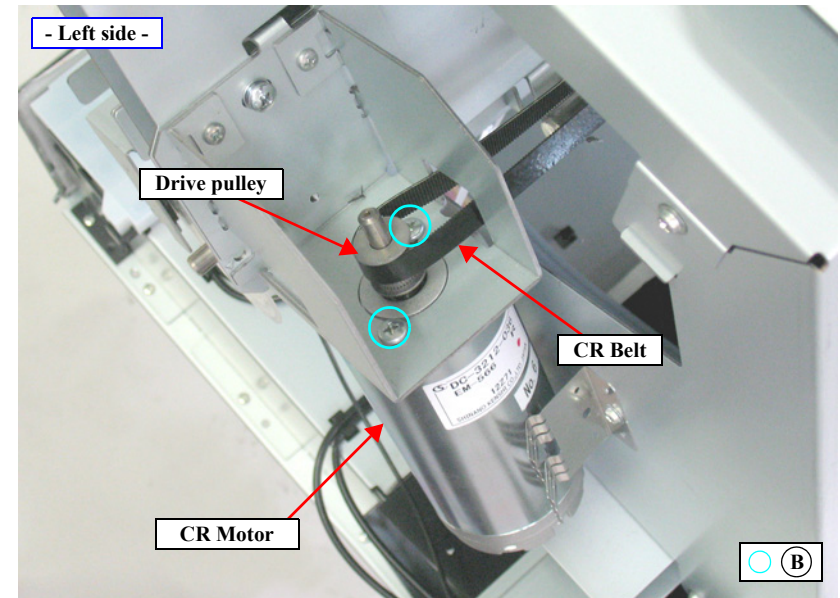

Figure 4-66. Removing the CR Motor
11. Remove the two screws that secure the CR Motor, and remove the CR Motor. *See Figure 4-66.*